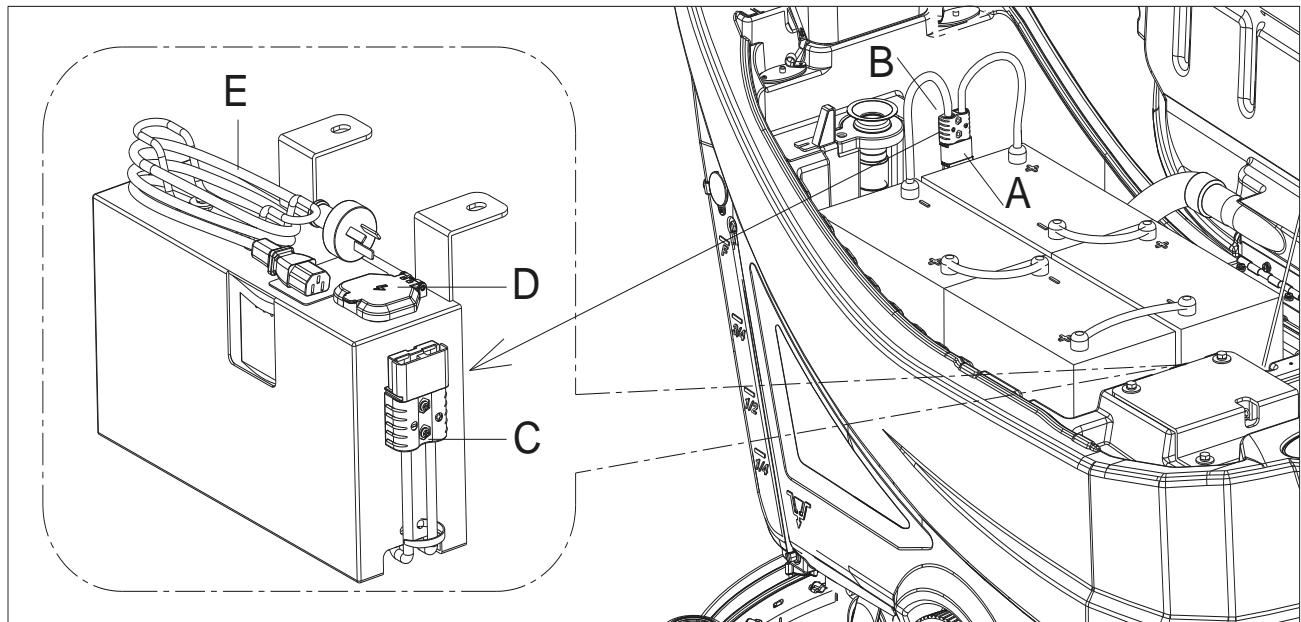

Figure 22
1. Change the battery connections (B, Figure 22) from (A) to (C.)
2. Connect the battery charging cable (E) to (D) and connect the other end of the cable to the electrical outlet.
3. When the battery charging is completed, the green warning light on the charger turns on. Disconnect the battery charger cable (E) and Change the battery connections (B) from (C) to (A).